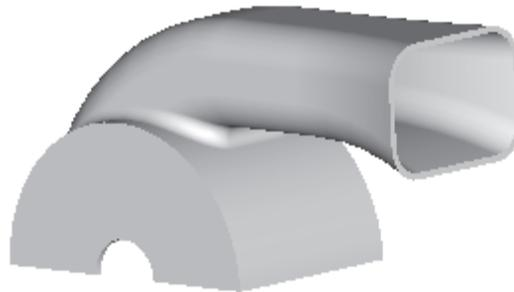

Figure 8-58 Model with the cut feature
The seventh feature of the model, that is, cut feature is shown in Figure 8-58.
11. Enter **2** in the **Message Input Window** and press ENTER. The rectangular pattern of holes will be displayed as shown in Figure 8-58. You can use CTRL+middle mouse button to spin the model and to display the model as shown in Figure 8-63.